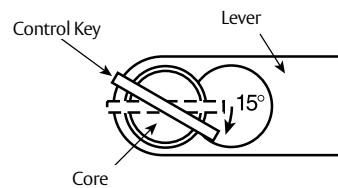

Figure 9 Locking Core
- Insert key marked CONTROL and turn clockwise approximately 15°. See Figure 9.